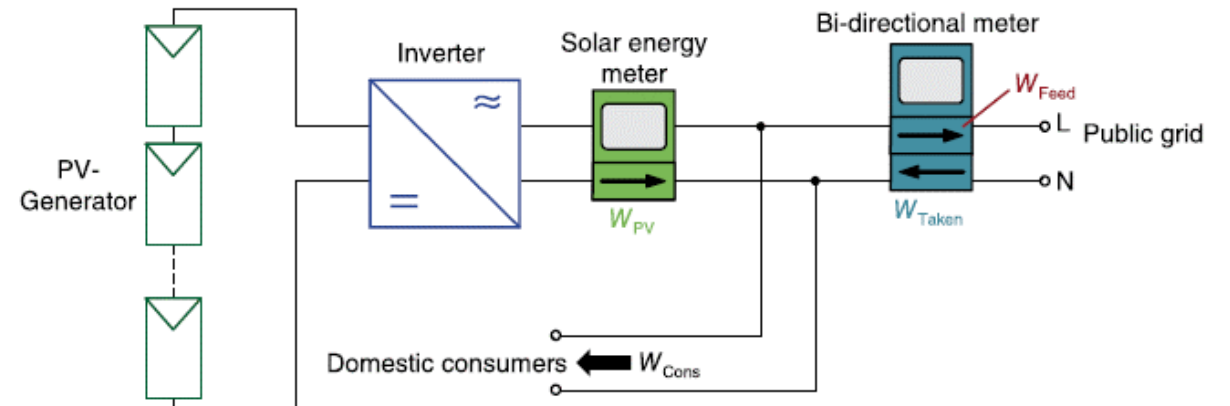

Fig. 50. Example of PV system with bi-directional power meter. Source: *Photovoltaics: Fundamentals, Technology and Practice* [Konrad Mertens].
- The second example, which has been represented in Fig. 50, shows the use of a bidirectional power meter (the “solar energy meter” might be avoided).